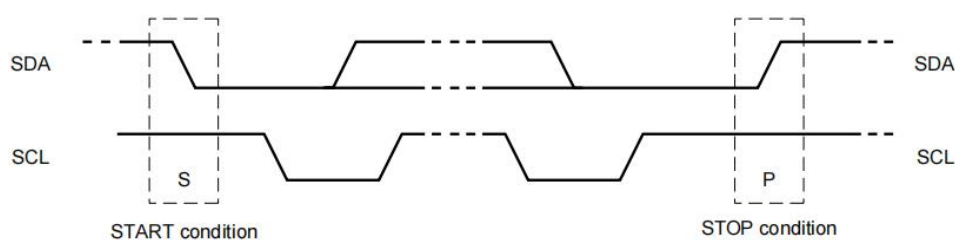

Fig.5 Definition of start and stop conditions.
A LOW-to-HIGH transition of the data line while the clock is HIGH is defined as the stop condition (P) (see Fig.5).